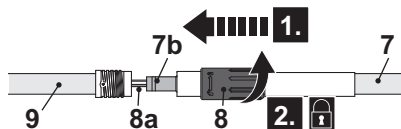

Fig. 1
1. Align the slot (7b) of the rear pole (7) with the spigot inside the front pole (9) and insert it (Fig. 1, step 1). Make sure that the electrical cord (8a) is not squeezed.
2. Fit the inter-locking sleeve (8) on the thread of front pole (9) and tighten the inter-locking sleeve (8) clockwise to secure the connections (Fig. 1, step 2).